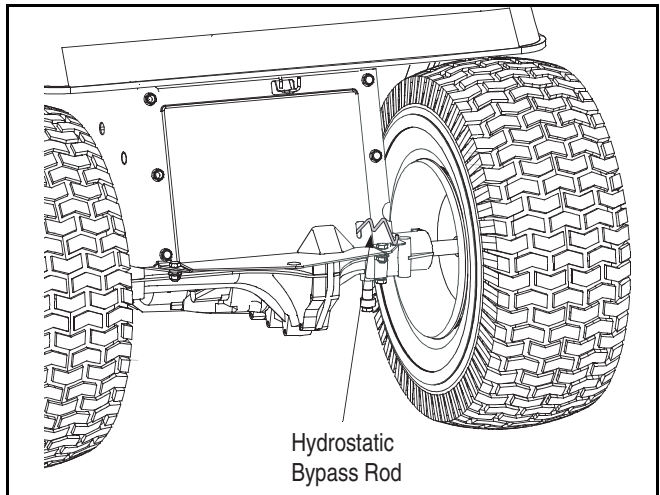

Figure 13
- Locate the hydrostatic bypass rod in the rear of the tractor. See Figure 13.